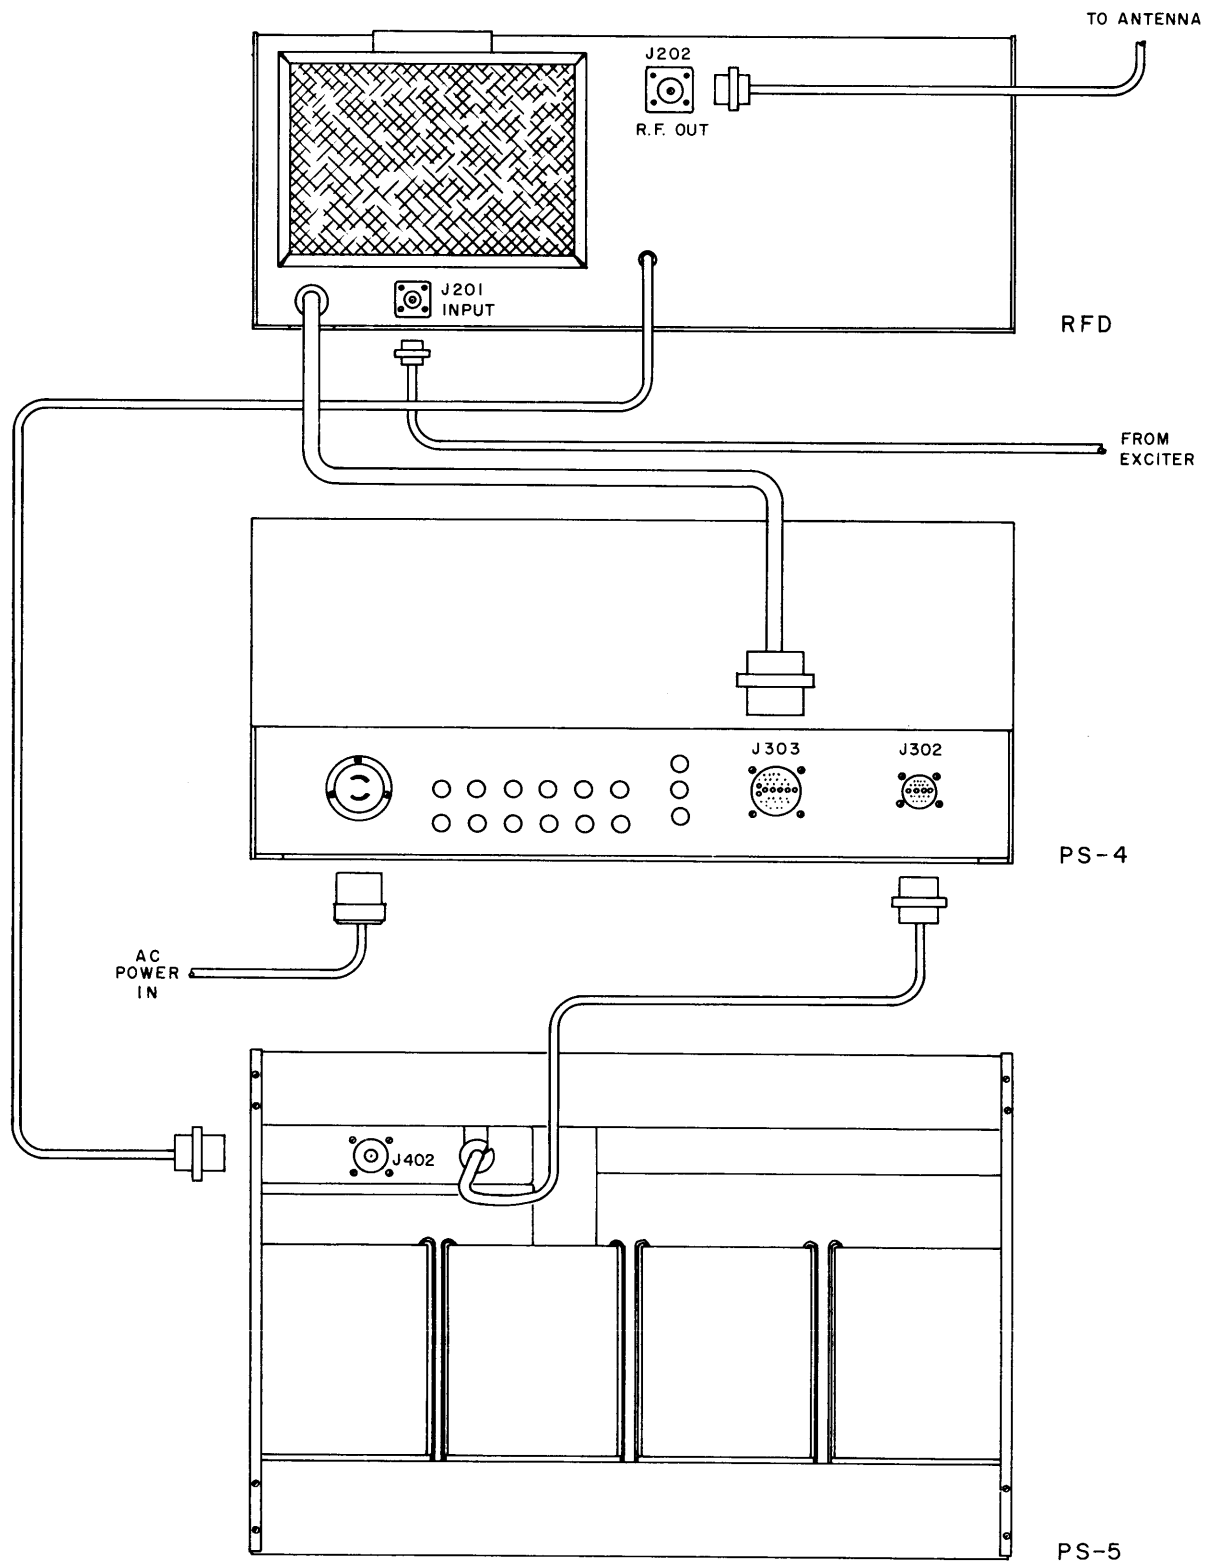

Figure 2-1. Pictorial Cabling Diagram, PAL-1K
a. Cables to interconnect the three individual units are provided as loose items. Connect them as shown in figure 2-1.